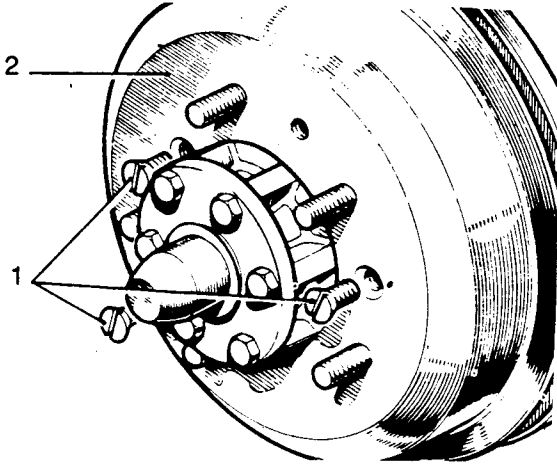

Fig K1.6
- (3) Refer to Fig K1.6. Remove the brake drum fixings (1).
- (4) Withdraw the brake drum (2).